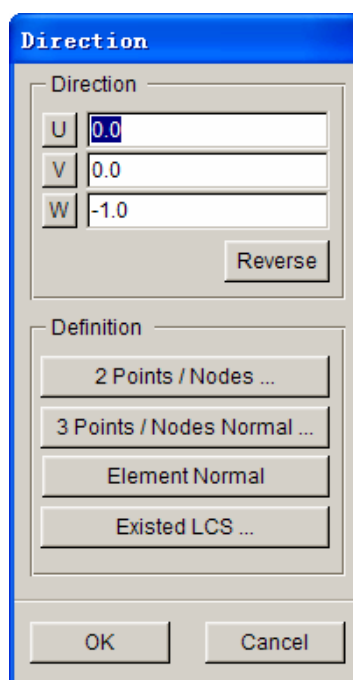

Figure 8.2.7 Define Direction dialog box
**Direction:** Select tool moving direction. The default moving direction of each tool is its working direction. The user may also define moving direction according to the requirement. Click  button to open the DEFINE DIRECTION dialog box as illustrated in Figure 8.2.7.